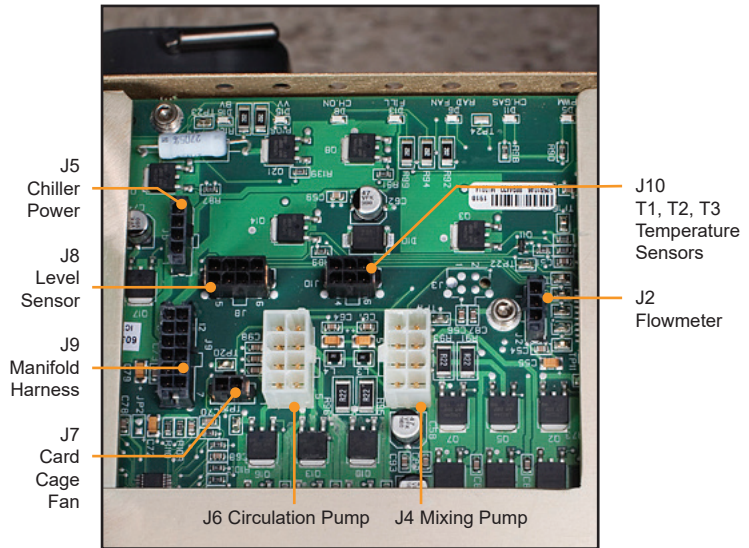

Fig. 8-15 I/O Circuit Card connections
1. Carefully disconnect each of the eight cables connected to the card, releasing each locking tab before pulling. These connections are illustrated in Fig. 8-15.